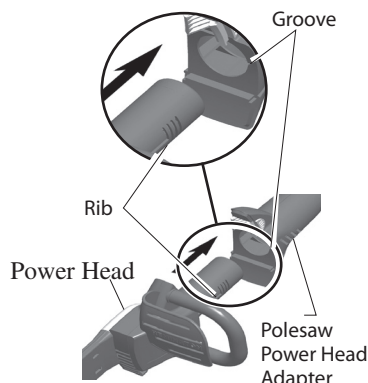

Figure 22 - Align Power Head with Power Head Adapter
3. Align rib on chain saw power head with groove in power head adapter on pole (see Figure 22).